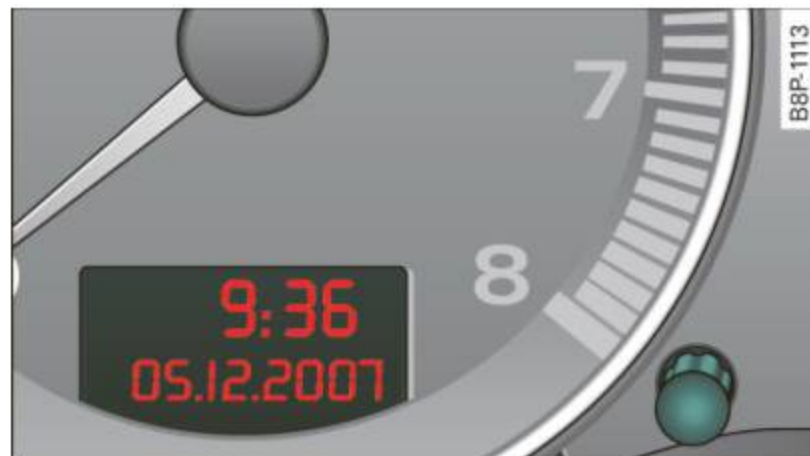

Fig. 20 Button in the instrument cluster
- Press the knob button ⇒ fig. 20 until the ⇒ page 33, fig. 19 symbol appears.